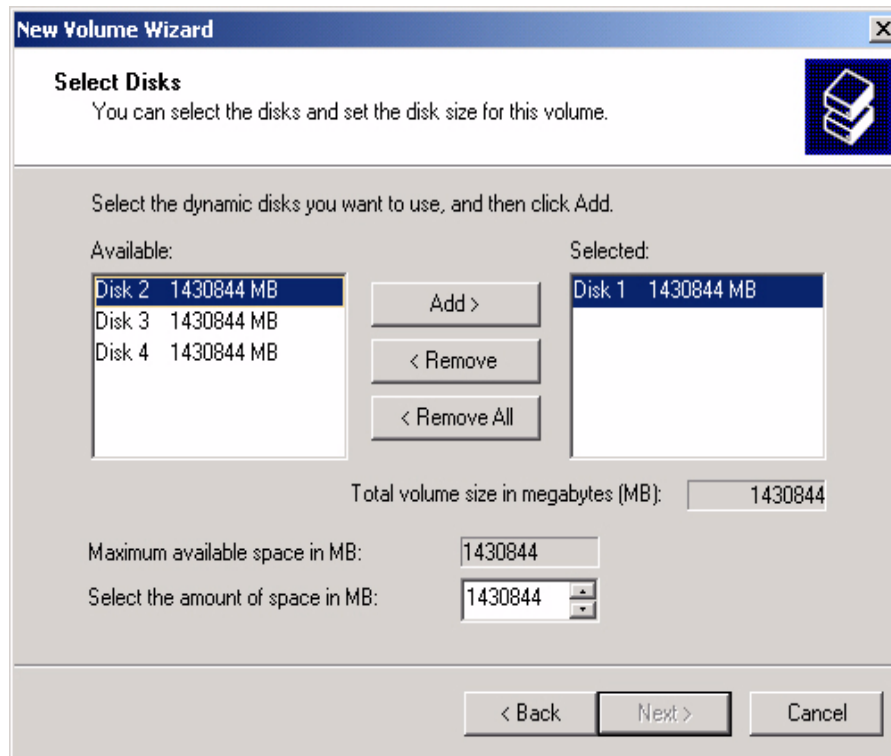

FIGURE 6-30. New Volume Wizard - Select Disks Screen.
2. The *New Volume Wizard - Select Disks* screen appears. Highlight “Disk 2”, “Disk 3”, and “Disk 4” in the “Available:” field. Click **Add >** to move “Disk 2”, “Disk 3”, and “Disk 4” to the “Selected:” field. See Figure 6-30.